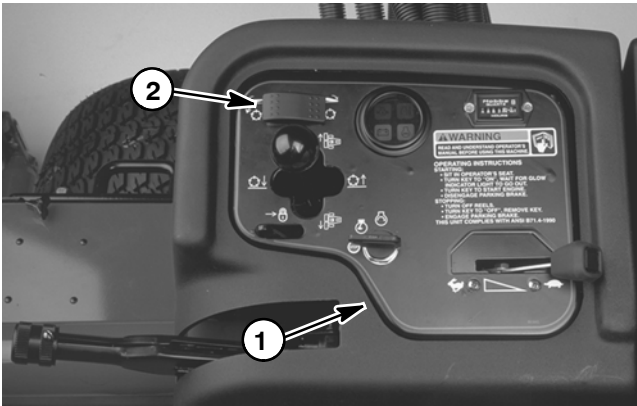

Figure 19
The cutting unit drive switch is located on the control panel (Fig. 19). This switch allows the decks to be engaged or disengaged. Along with additional switches in the interlock system, the cutting unit drive switch controls the solenoid valve on the hydraulic manifold. The cutting unit drive switch used on machines with serial number below 314000000 is a six (6) terminal rocker switch.